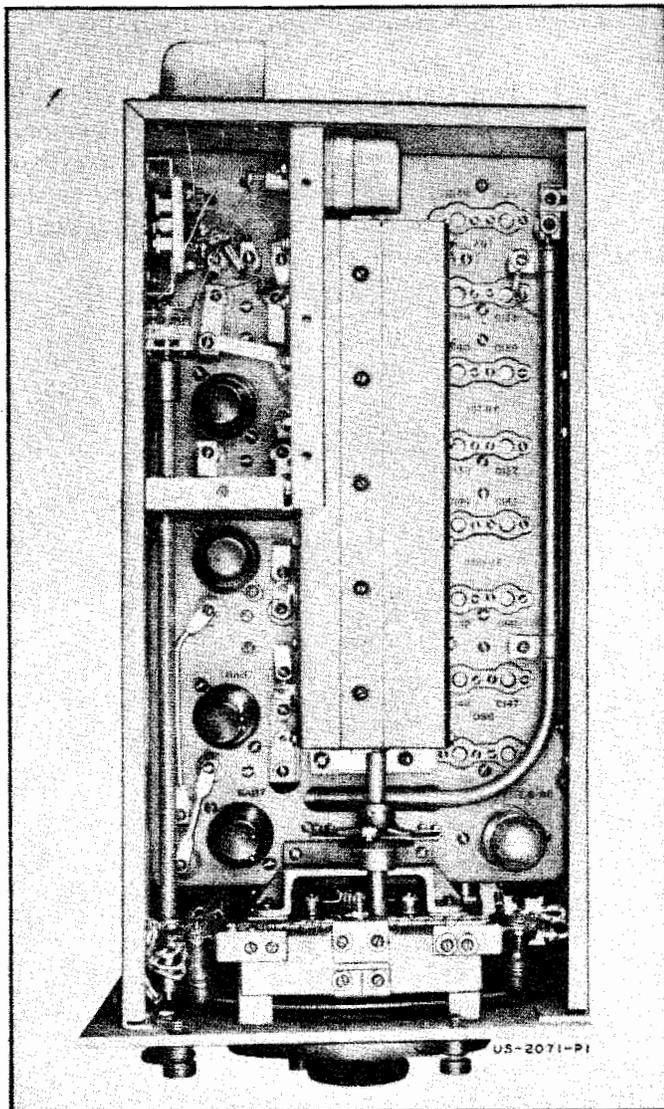

Figure 1-4. RBB (or RBC) Preselector Section Chassis
a. PRESELECTOR SECTION.—The preselector section incorporates six tubes, including an Amperite regulator and r-f limiter tube. Figures 1-4 and 1-5 are the top and bottom views of the RBB preselector. The RBC preselector, being virtually identical except on close inspection of wiring, is not illustrated at this point for simplicity and clarity.
A shielded compartment on the preselector, shown on Figure 1-4, encloses the input circuits and first r-f tube. A small terminal board located in this compartment provides a means for changing the input circuit